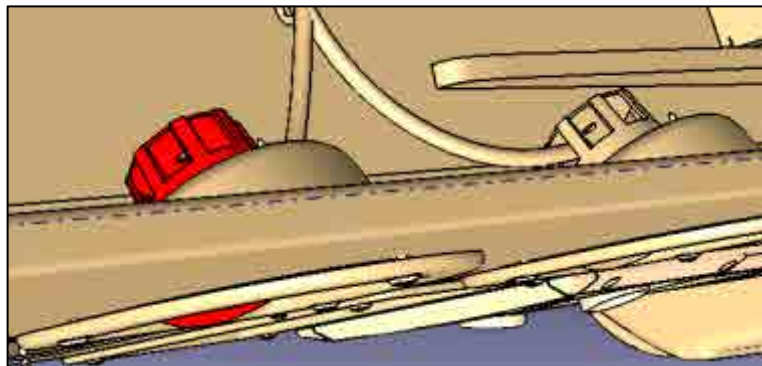

Figure 11
8. Hold the connector by the "basket side" of the light housing while pulling the light out. (Figure 11)